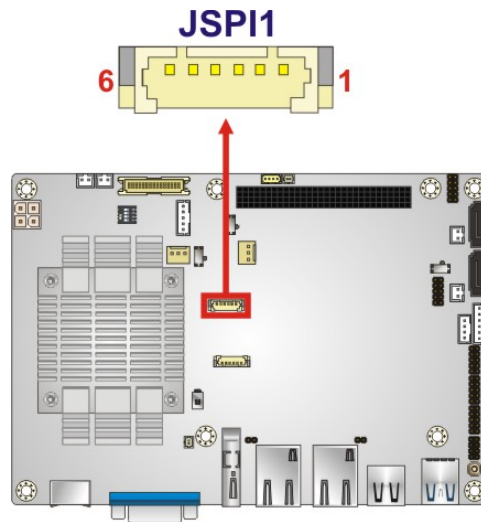

Figure 3-28: SPI Flash Connector Location
**CN Location:** See **Figure 3-28**